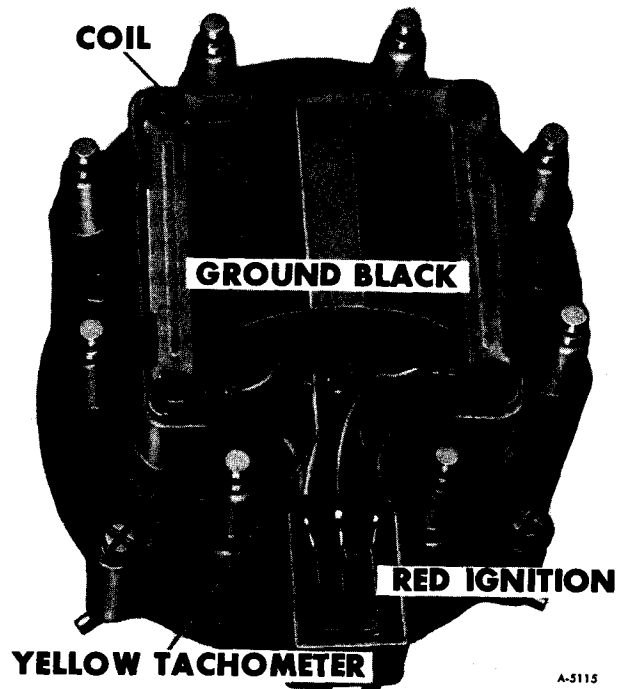

Figure 30—Ignition Coil
INSTALLATION (REFER TO FIGURES 30 AND 31)
3. Push coil lead wires into connector on side of cap (figure 30).